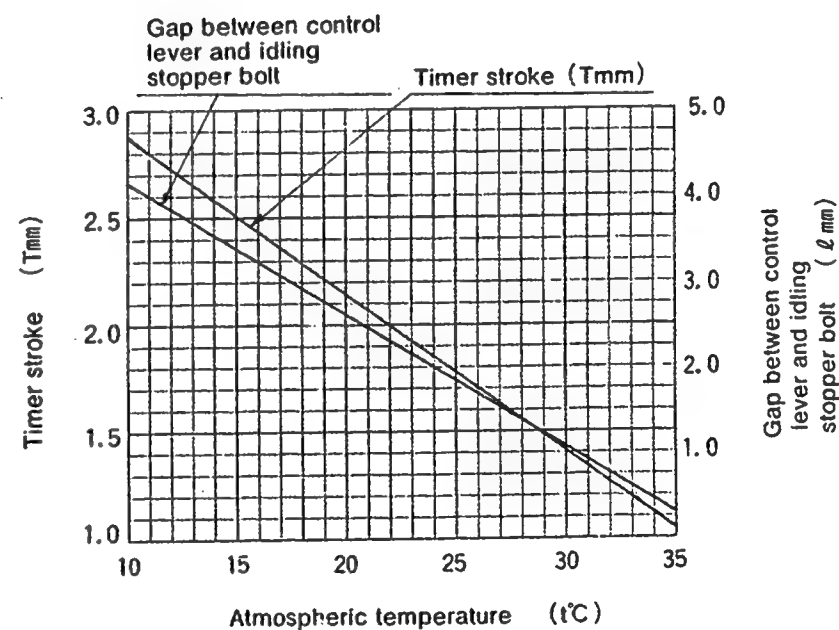

Fig. 2
1. Calculate the timer stroke from Fig. 2 according to the atmospheric temperature at the time of adjustment.
1. Calculate the block gauge dimension $l \pm 0.05\text{mm}$ from Fig. 2 according to the atmospheric temperature at the time of adjustment.